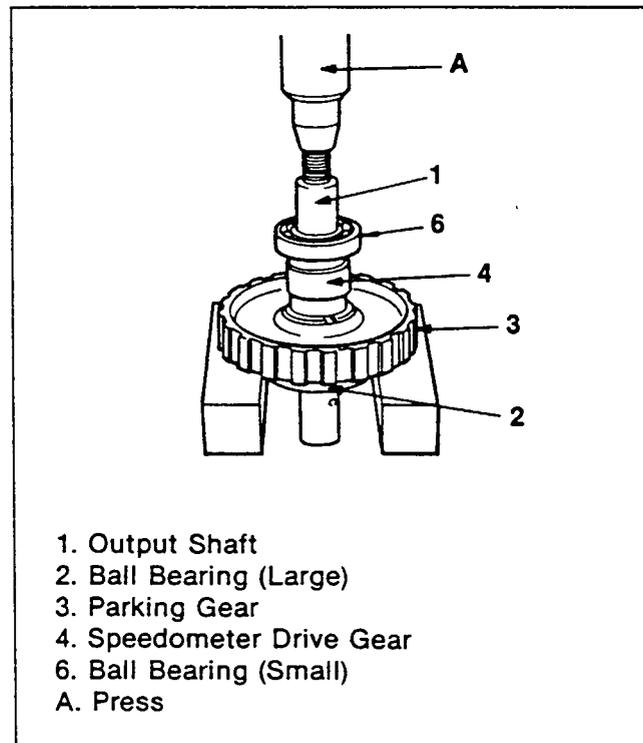

Figure 183. Ball Bearing (Small), Speedometer Drive Gear and Parking Gear Removal
**Disassemble (Figures 183 and 184)**
1. Remove the ball bearing (small), speedometer drive gear, steel ball and parking gear with a press (figure 183).